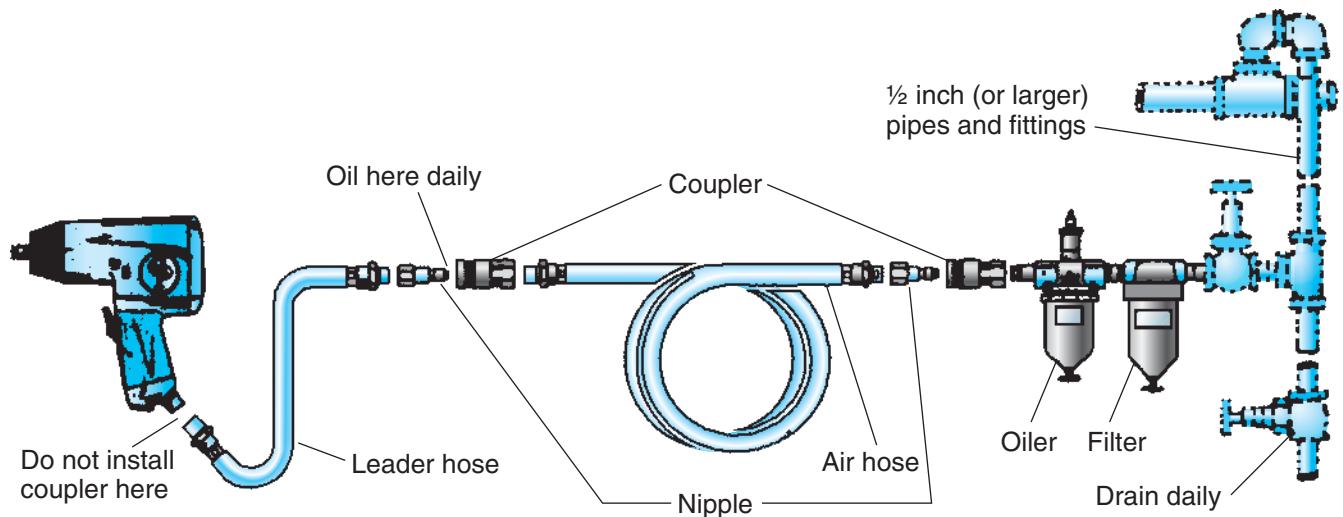

Figure 2-17 Typical setup for a 1/2-inch drive, impact gun. (Courtesy of Chicago Pneumatic)
- ½ in. drive impact gun (See **Figure 2-17.**)
- Air hose—often provided by shops (See **Figure 2-17.**)
Air tools are used extensively in all truck service locations. Some of the air tools are owned by the technicians; others are provided by the shops. Technicians working around pneumatic equipment sometimes forget that it can be dangerous. Always wear eye protection and be aware that dusts driven into the air by pneumatic tools can cause breathing problems. Most shops provide heavy-duty pneumatic tools such as 1-inch drive air guns. A ½-inch drive impact wrench such as that shown in **Figure 2-17** will be one of the most frequently used tools in the truck technician's cabinet. The engine technician primarily uses this for disassembly. Buying a good quality air gun and properly maintaining it by keeping it moisture-free and oiled (observe the oiler and filter in **Figure 2-17**) will help ensure that it functions well for a number of years.